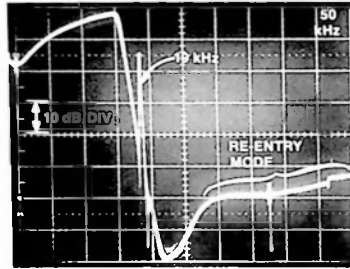

Fig. 19. Pre-emphasis Response in 10 dB/div Mode
4. Sweep the stereo generator-transmitter combination from 0 to 50 kHz in 10 dB/div mode. Check for low level re-entry points and the 19 kHz intersect point (Figure 19).